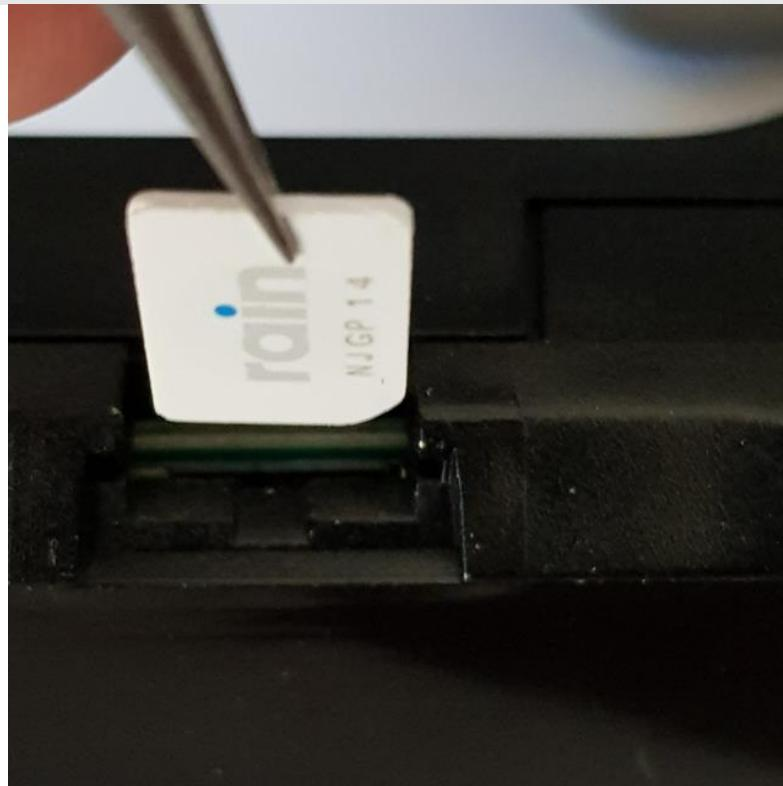

Figure 2: Insert SIM with Copper pads facing up
2. Insert the SIM card with copper pads facing up as illustrated in Figure 2.